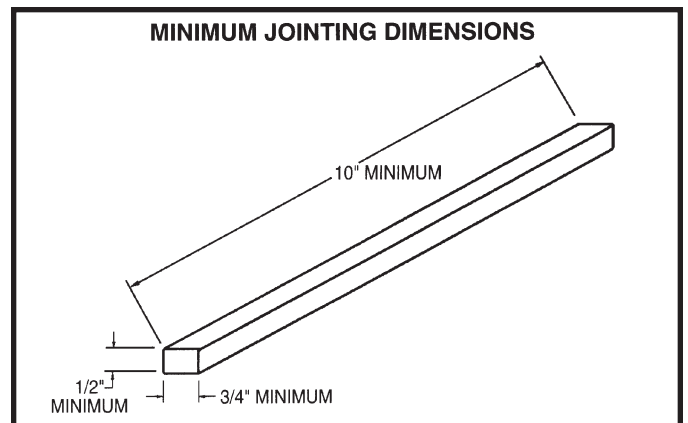

Fig. 63
**CAUTION** DO NOT PERFORM JOINTING OPERATIONS ON MATERIAL SHORTER THAN 10 INCHES, NARROWER THAN 3/4 INCH, OR LESS THAN 1/2 INCH THICK (REFER TO FIG. 63).